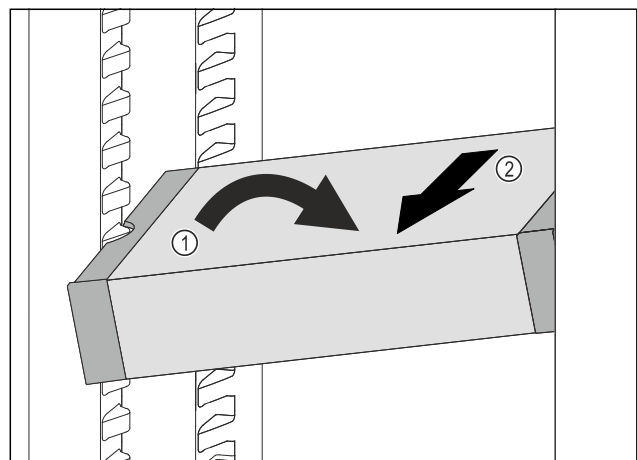

Fig. 96
- ▶ Set VarioSafe in refrigerator compartment at an angle. Fig. 96 (1)
- ▶ Take VarioSafe out to the front. Fig. 96 (2)